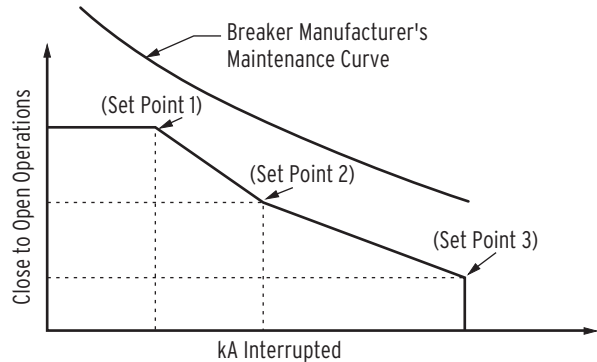

Figure 15 Breaker Contact Wear Curve and Settings
- Every time the breaker trips, the relay integrates interrupted current. When the result of this integration exceeds the threshold set by the breaker wear curve (Figure 15), the bay can alarm via an output contact or the optional front-panel display. With this information, you can schedule breaker maintenance in a timely, economical fashion.